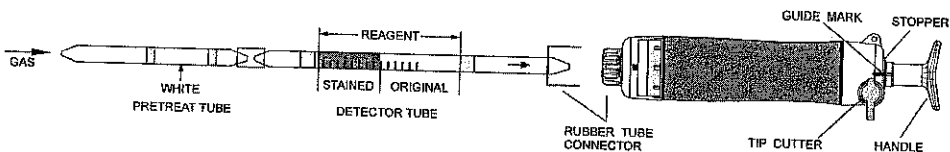

Fig.1
- ① Break both ends of the detector tube and pretreat tube, and connect each end of the detector tube and pretreat tube with rubber tube connector as shown in Fig.1.
- ② Insert the detector tube into aspirating pump securely as shown in Fig.1. (Arrow mark shall point to the pump.)
- ③ Align the guide marks on the shaft and stopper of the aspirating pump.
- ④ Pull the pump handle at full stroke locked position and wait for 1.5 minutes or until the completion of sampling is confirmed with the flow indicator of the pump (See descriptions about the flow indicator in the instruction manual of the pump).
- ⑤ Turn the handle right or left by 1/4 (90°), push it toward to the pump without removing the detector tube from the pump inlet and then repeat the step ④ twice again.
- ⑥ On completion of sampling, read the scale at the maximum point of the stained layer.